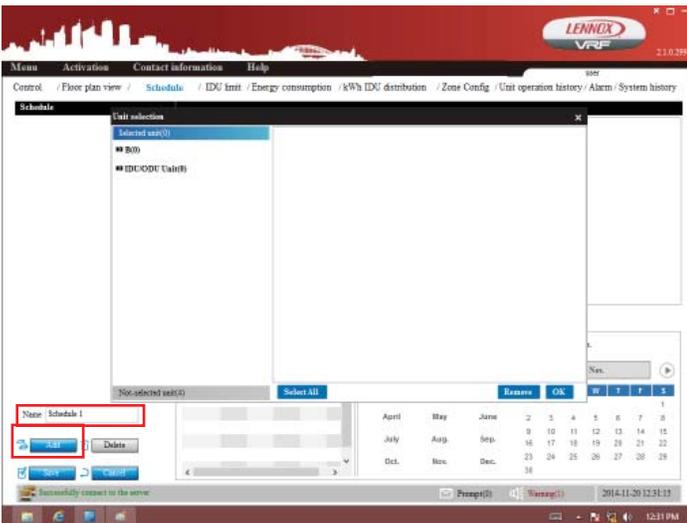

Figure 25. Create a Schedule
2. Tap the name field and provide a name for the schedule. See figure 25. Tap virtual keyboard on the bottom right on the Windows Taskbar to input the name.